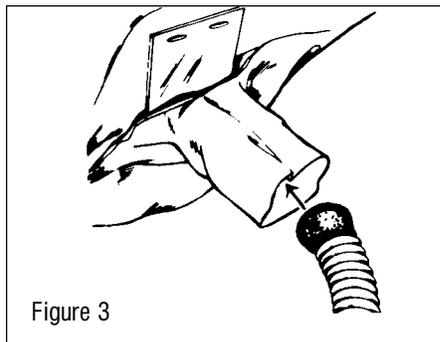

Figure 3
2. Insert the breathing tube approximately five inches into the LANCER Cool Collar air delivery system's air entry sleeve (Figure 3).